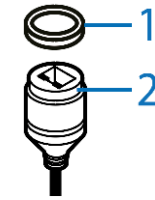

Figure 4
1. Insert the rubber gasket (1) (Figure 4) into the RJ45 pigtail connector (2) (Figure 4).